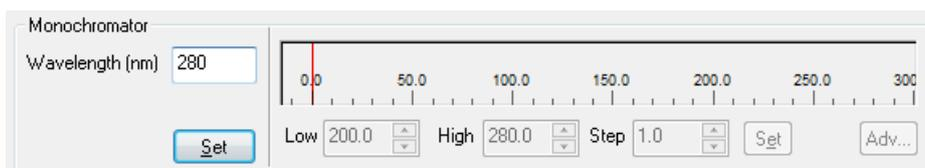

Figure 2.16: the monochromator panel for fluorescence kinetics
5) On the **Monochromator** panel (Figure 2.16) enter the selected excitation wavelength.